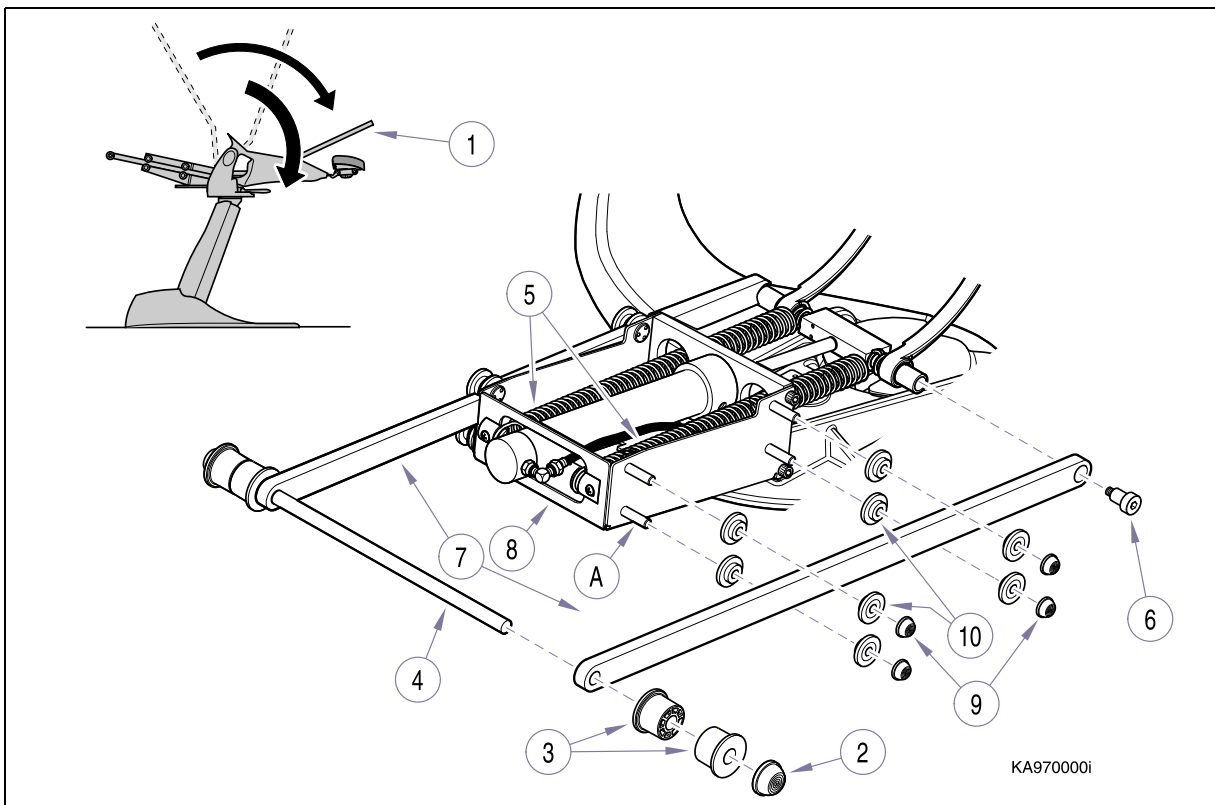

Figure 4-25. Hydroglide Assembly.
- (2) Unplug chair power cord.
- (3) Remove upholstery (refer to para 4.2).
- (4) Swing chair seat frame (1, Fig. 4-25) up.